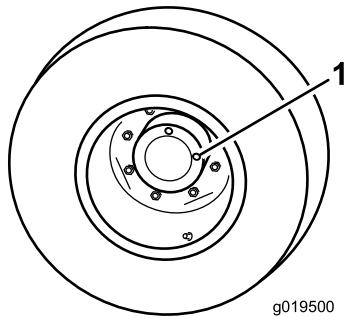

Figure 15
1. With machine on level surface, position the wheel so one check plug (Figure 15) is at the 12 o'clock position and the other is at 3 o'clock position.
1. Check/drain plug (2)
2. Remove the plug at the 3 o'clock position (Figure 15). Oil level should be at the bottom of the check plug hole.